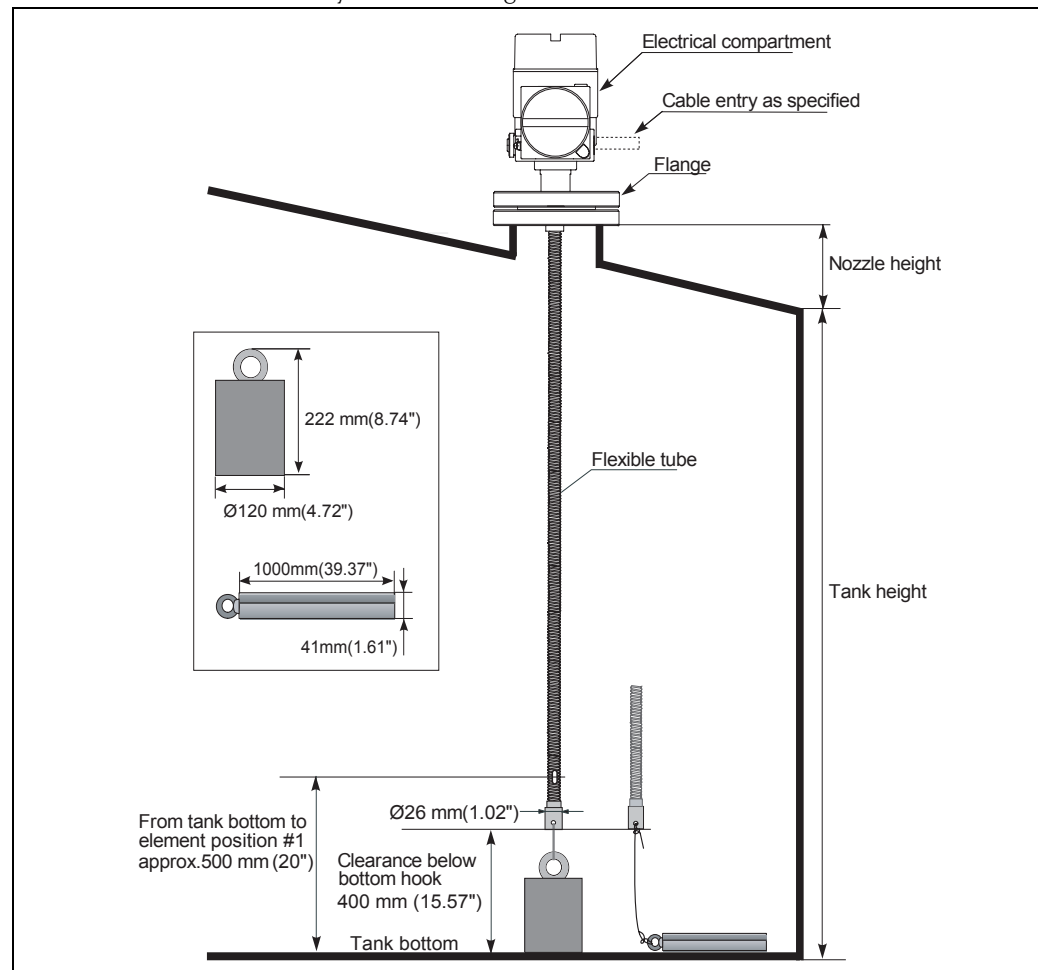

Fig. 11: Anchor weight application
- Wrap the tensioning wire twice around a hole on the bottom hook, tighten it and wrap a provided wire around it (see fig.11 ).
Wind the tensioning wire twice around each of the hitches and wrap a wire around it (see fig.11).